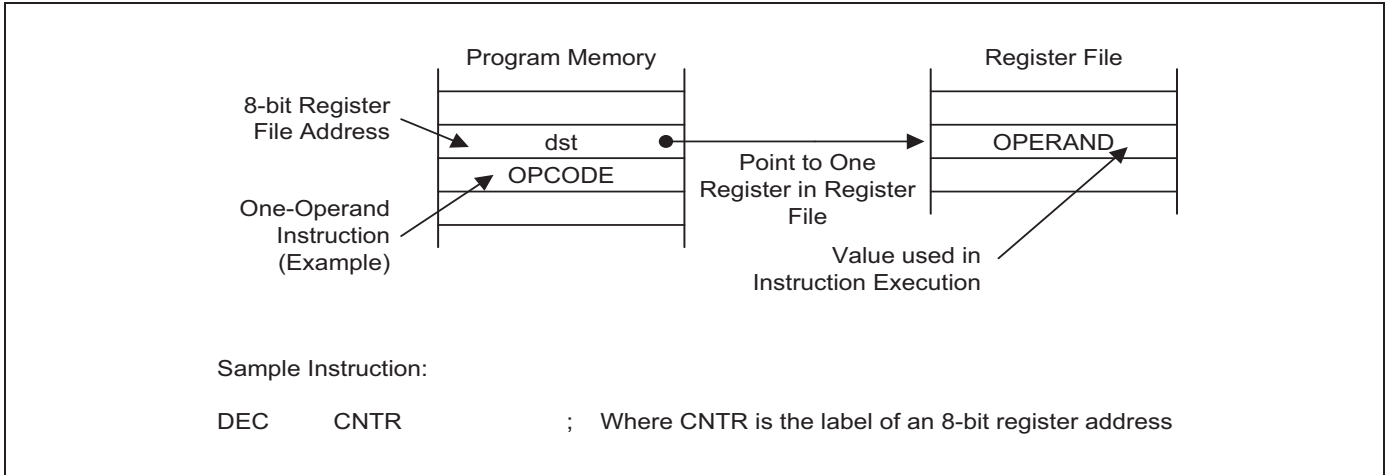

Figure 3-1 Register Addressing
In Register addressing mode (R), the operand value is the content of a specified register or register pair (Refer to Figure 3-1 for more information).
Figure 3-1 illustrates the register addressing.